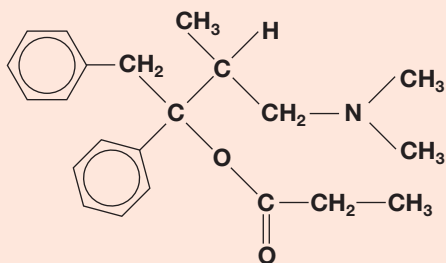

Figure 5.19 ▲
- 15 The chemists who synthesise new drugs must pay close attention to chirality. Dextropropoxyphene, for example, is a painkiller. The molecule has two asymmetric carbon atoms. Its mirror image is useless for treating pain, but it is a useful ingredient in cough mixtures. Redraw the structure of dextropropoxyphene (Figure 5.19) and indicate the chiral centres with asterisks.